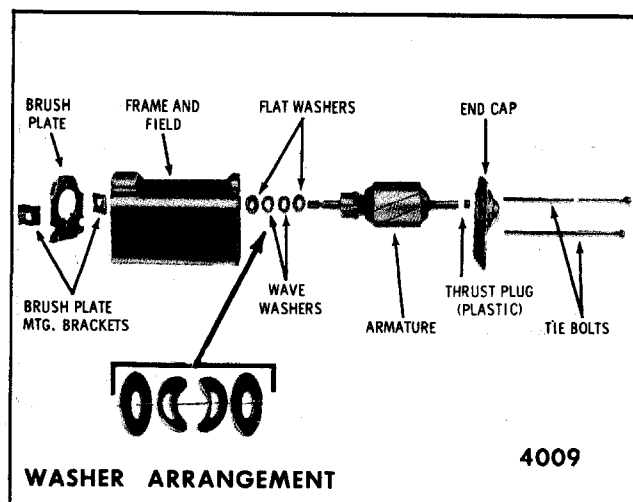

Fig. 2-17-Wiper Motor - Exploded View
7. Remove end play washers from commutator end of armature shaft. When reassembling armature in wiper, install washers as shown in Figure 2-17.
2. Remove motor tie bolts (Fig. 2-17).